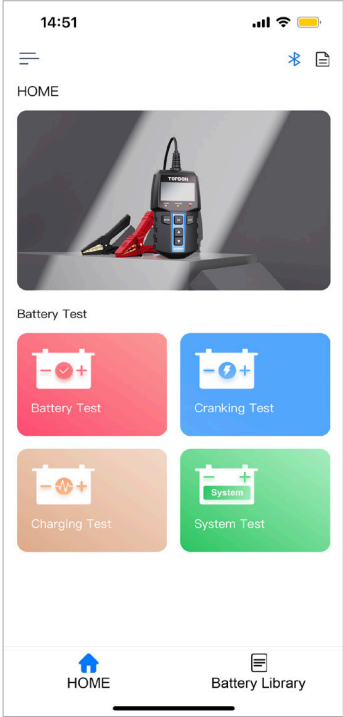
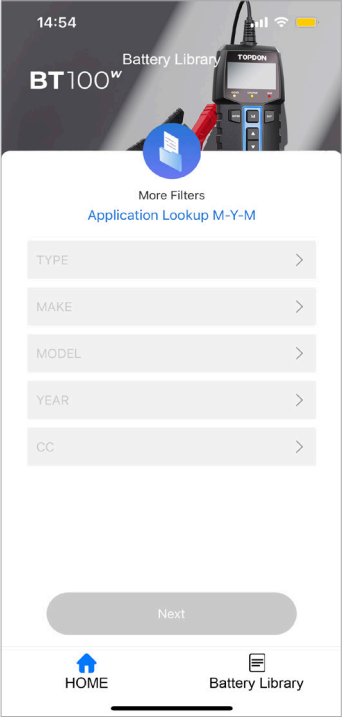

Figure 5.8.1
Figure 5.8.2
- 1) Battery Library is designed to check detailed information of the batteries. Press Battery Library on the homepage (See Figure 5.8.1) and follow the prompts to enter like TYPE, MAKE, MODEL, YEAR and CC (See Figure 5.8.2).